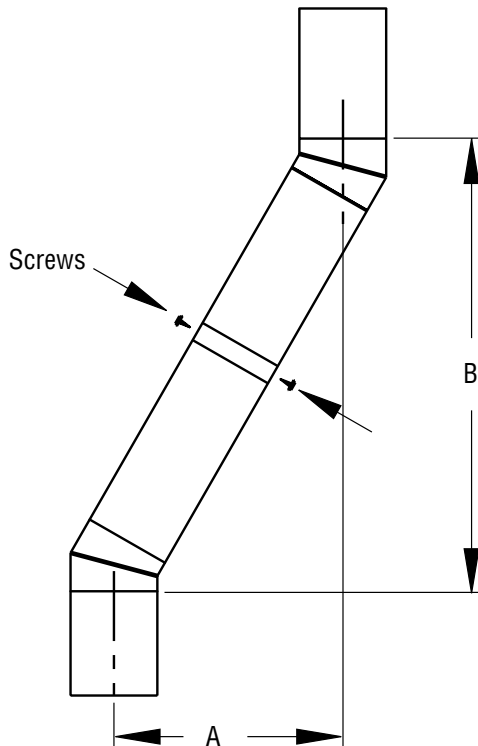

Figure 10 - Elbow Offset
Continue to assemble chimney sections as outlined above, making sure that both the inner and outer pipe sections are locked together. When installing double wall snap-lock chimney together, it is important to assure the joint between the chimney sections is locked. Check by pulling chimney upward after locking. The chimney will not come apart if properly locked. It is not necessary to add screws to keep the chimney together (*exception, see Figure 10, Page 10*).
1. To achieve desired offset, you may install combinations of 12", 18", 24", 36" and 48" length of double wall pipe (see offset chart and **Figure 10**).
4. All pipe connections between the offset and return must be secured with two screws on the outer pipe only (see **Figure 10**). Do not penetrate the inner stainless.